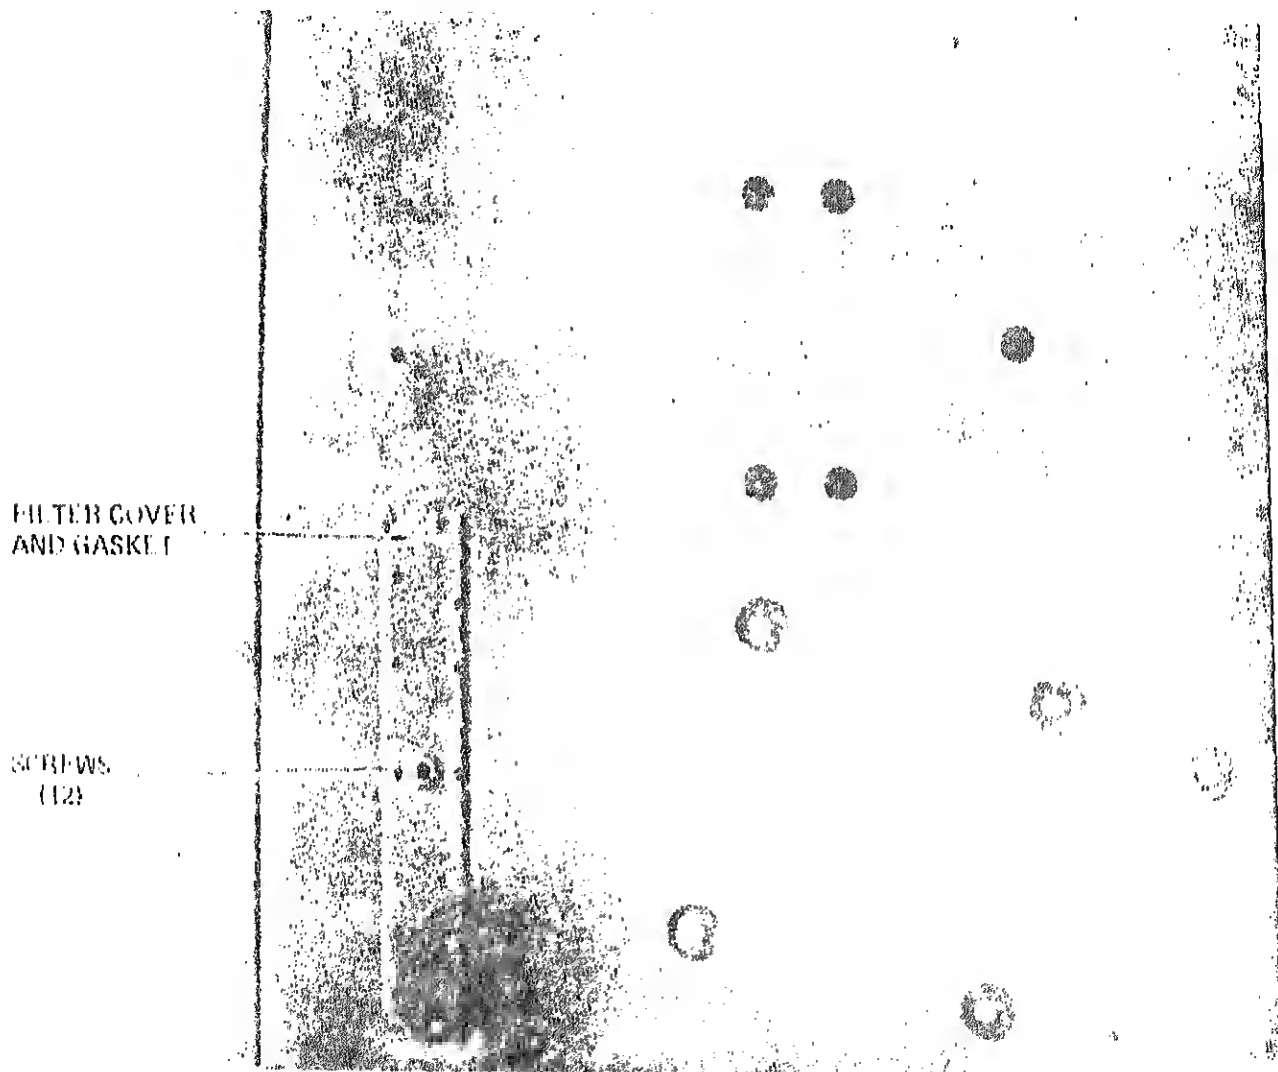

Figure 5-1. Air filter, removal and installation.
(13) Remove eight screws securing frame base and remove frame from base.
(14) Discharge refrigerant system (para. 5-6*b*).
(15) Remove two refrigeration lines and evaporator coil.
(16) Remove six screws securing evaporator coil.
(17) Remove four screws (fig. 5-1) from bottom of air conditioner and remove evaporator coil.
(1) Remove filter cover (fig. 5-1) and secure with 12 screws.
(1) Slide air filter up into air conditioner.
(2) Install gasket (fig. 5-1) and filter cover and secure with twelve screws.